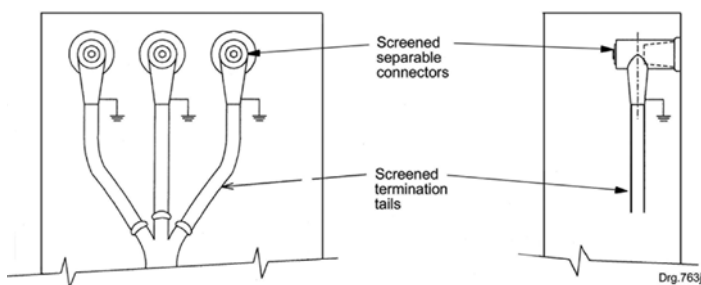

Figure 11: Screened separable connector termination – outside cone (Type 4).
- Type 4 termination - screened separable connector terminations – outside cone, see *Figure 11* and